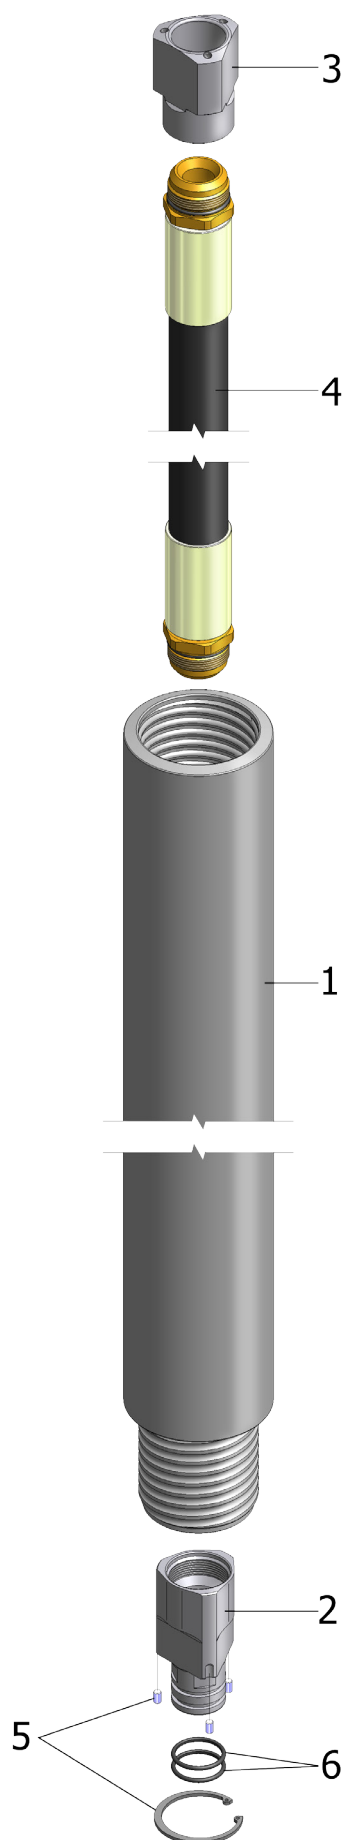

FIG. 3.18
**D.114 C2 RP ROD: J-1C2RP100 (L=1000); J-1C2RP200 (L=2000); J-1C2RP300 (L=3000) (REF. FIG. 3.18)**